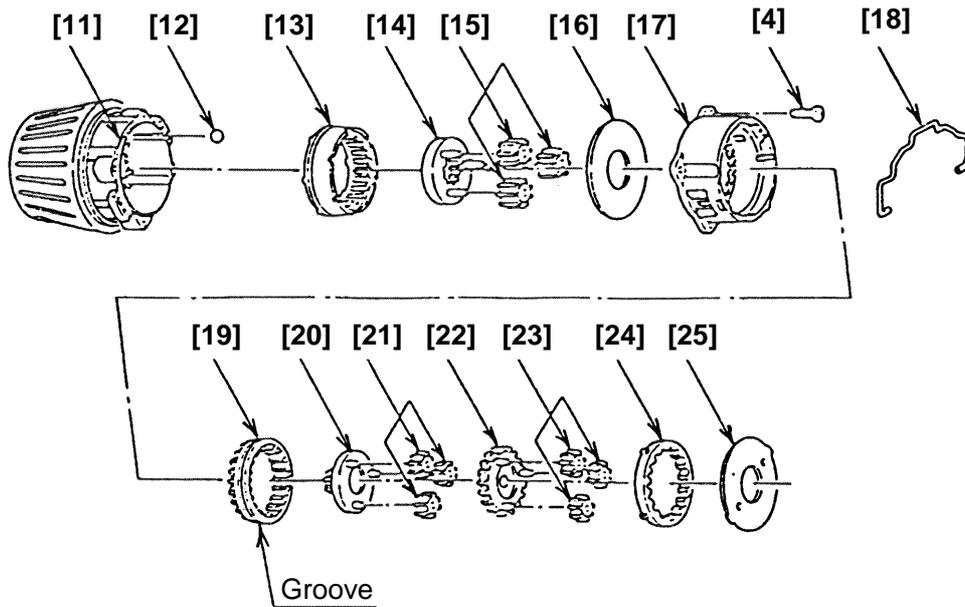

Fig. 9
(b) Install the parts series from the Steel Ball [12] to the Washer (B) [25] into the assembly reassembled in step (2). (See Fig.9.)